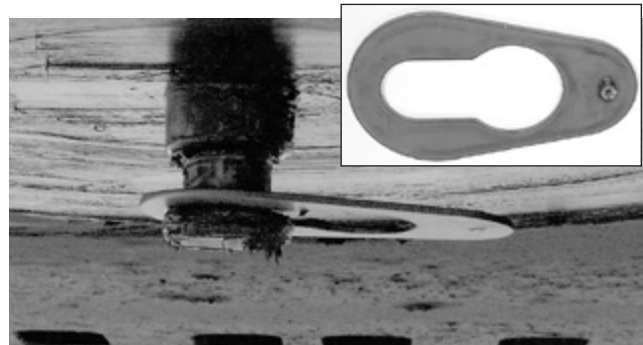
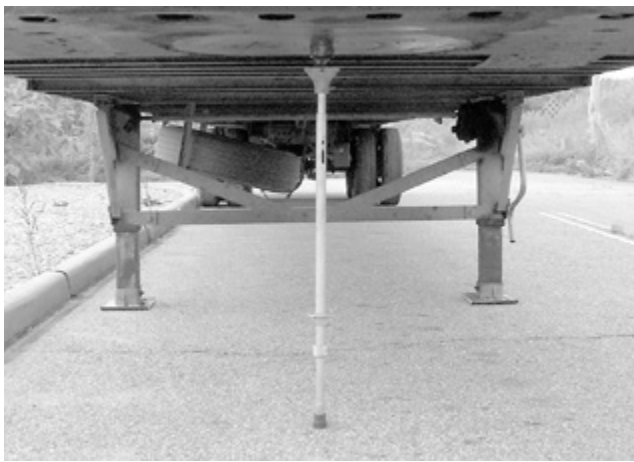

Figure 18: Kingpin adapter
Figure 19: Kingpin extender
- A. If this sightline is free from under-trailer obstructions that would interfere with a measurement (i.e., landing legs, trailer frame, tool boxes, etc.), then the kingpin adapter (Figure 18) can be used to make the measurement in Step 5.
- B. If this sightline is obstructed, then the kingpin extender or pogo stick (Figure 19) must be used to lower the connection for the measurement in Step 5.
2. Place kingpin adapter (Figure 18) or kingpin extender (Figure 19) onto the kingpin.